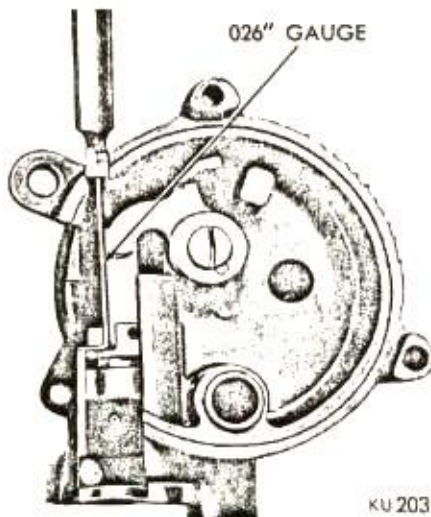

Fig. 2—Choke Piston Indexing
- (1) Remove choke housing retainer ring, heat tube cap and choke coil housing, baffle plate and gasket.
- (2) Remove throttle return spring so throttle can be set one quarter turn open.
- (3) Let choke blade go wide open.
- (4) Insert an .026 inch wire gauge* into choke piston slot so that hook on the end goes into slot in cylinder (Fig. 2).
- (5) Push on choke piston lever thermostat tang trapping the wire gauge between piston and cylinder slots with linkage hanging free.
- (6) Adjust the link connecting the choke shaft to the choke piston lever by bending the link at an angle to give 1/8 drill opening between choke valve and wall of air horn.
- (7) Reassemble choke, setting the coil one notch rich and install the throttle return spring.